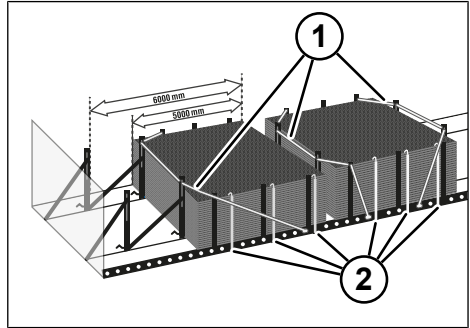

Fig. 8-56: Tie-down lashing of the steel mats
- ▶ If one steel mat package will only be loaded on the front position, brace the rear plug-in posts as well. Ensure that the lashing belts are above the corners of the load. Use edge protection (see "Fig. 8-56: Tie-down lashing of the steel mats", pg. 156).